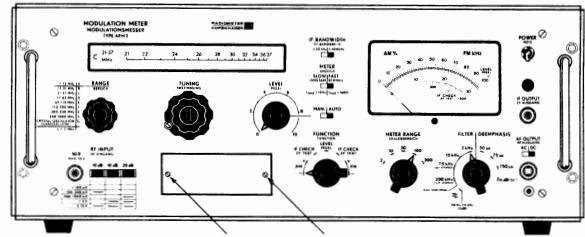

Fig. E5. The arrows show screws and plate to be removed when a plug-in unit is to be used.
Crystal Oscillator Unit is to be placed (see Fig. E5).
1) Remove the two screws and the plate covering the receptacle in which the External-Oscillator Amplifier is to be placed (see Fig. E5).